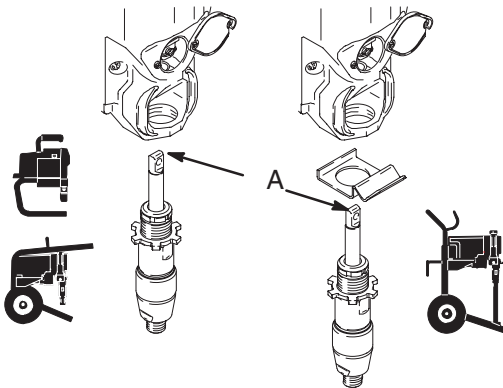

Fig. 14 9575A
1. Fig. 14. Extend pump piston rod fully. Apply grease to top of pump rod at (A) or inside connecting rod.